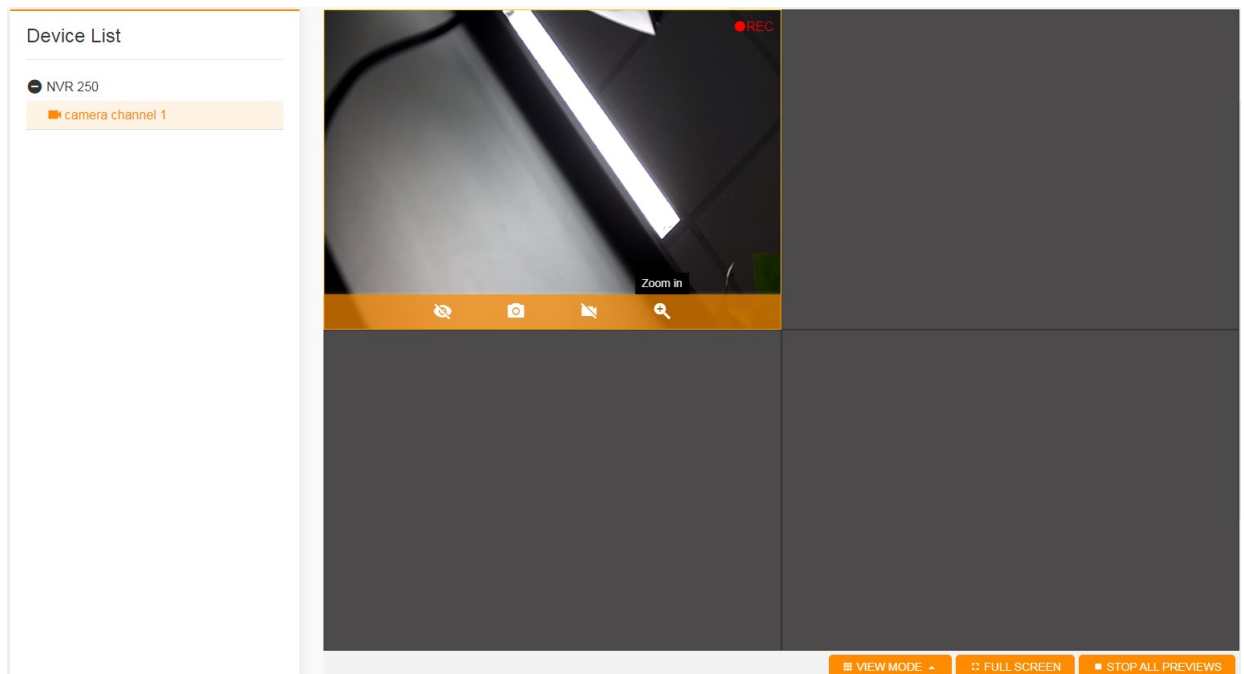

Figure 14-20 Zoom in
1. Select the corresponding small window, hover the cursor over the bottom of the window, and click the Zoom in button, as shown in Figure 14-20.